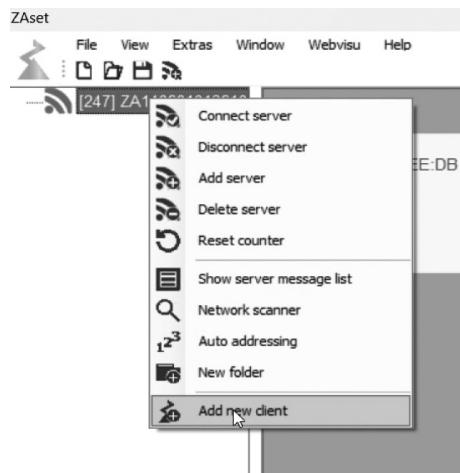

Fig. 17 – ZA – Add New Client Window
7. Right-click on the server again and select **Add new client** (see Fig. 17).